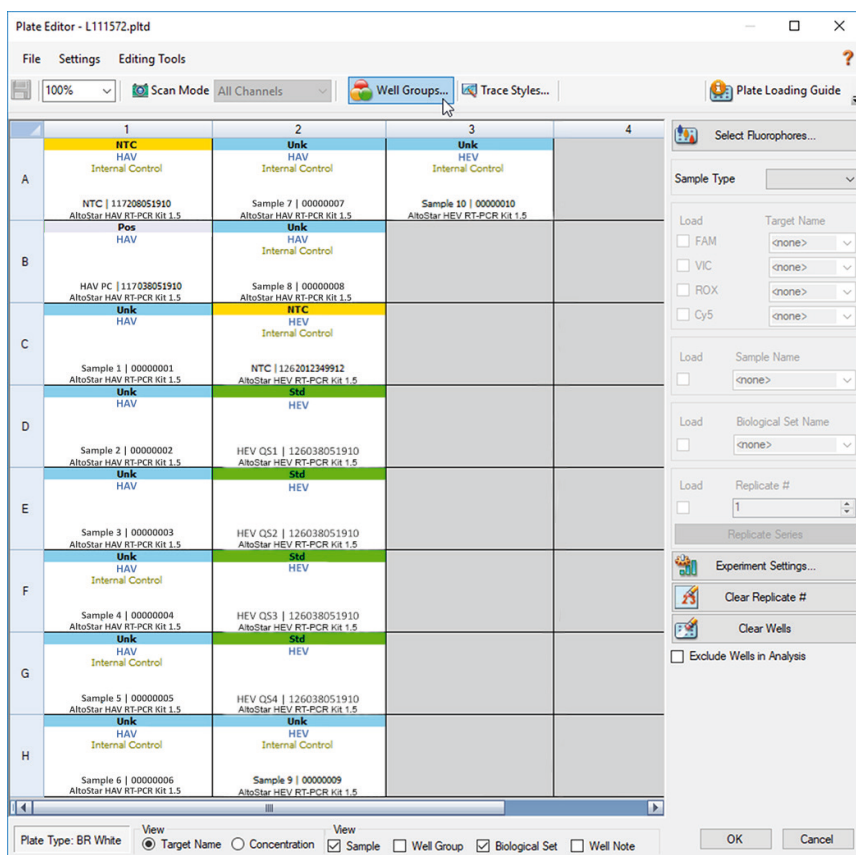

Figure 2: Plate Editor dialog
1. In the Data Analysis window click the **Plate Setup** button in the toolbar and select **View/Edit Plate**. The Plate Editor dialog is displayed (see figure 2).